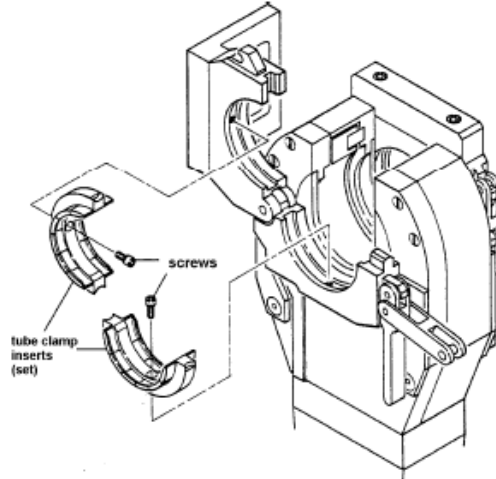

Fig. 6
- 6.1 Before mounting the clamp insert into the head be sure both the clamp and weld head clamp mounting groove are clean and free of dirt, oil or other contaminants. The clamp mounting screw need only be lightly snug. See fig. 6.